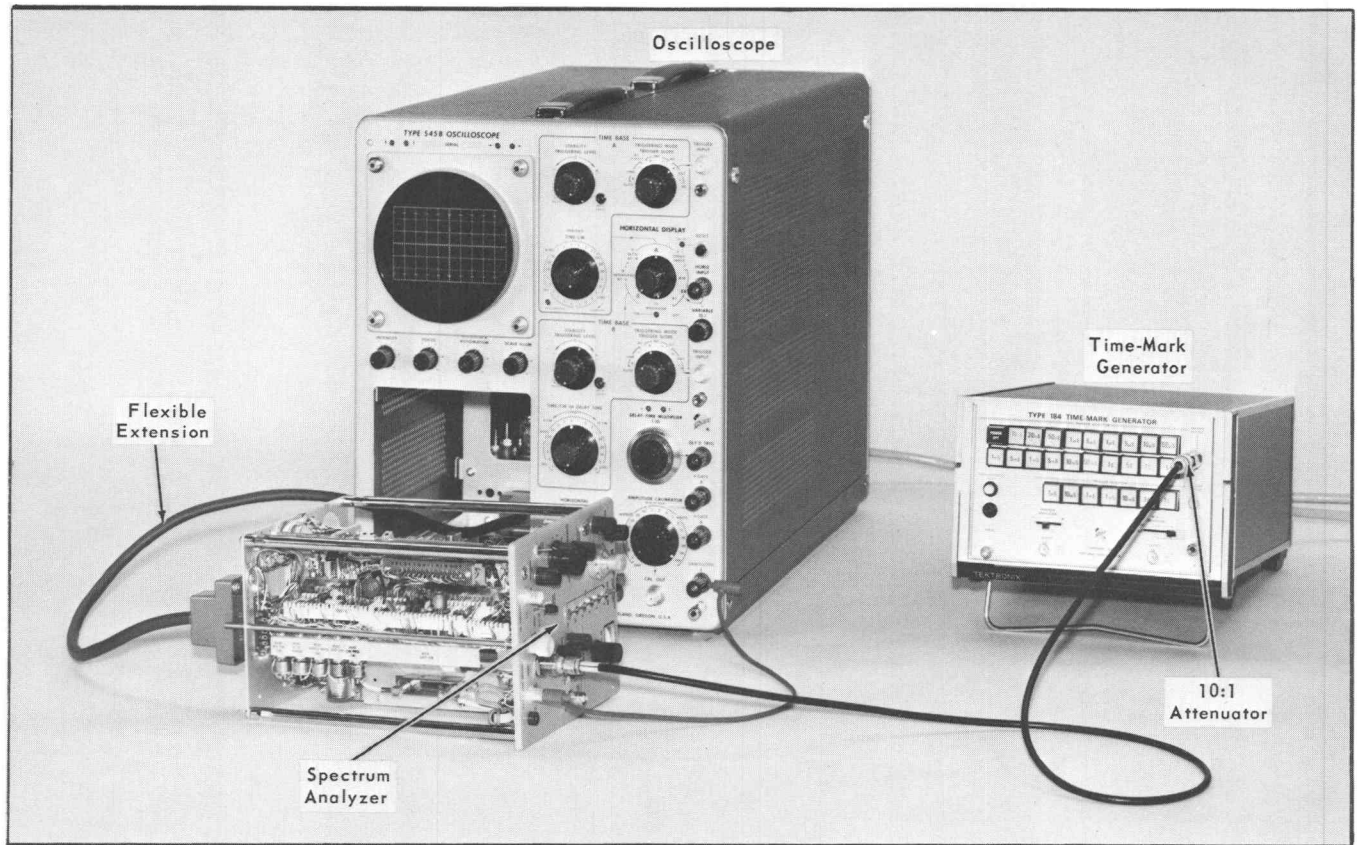

Fig. 6-3. Setup for adjusting and checking Dispersion (Steps 2 and 3).
- a. Connect the equipment as shown in Fig. 6-3.